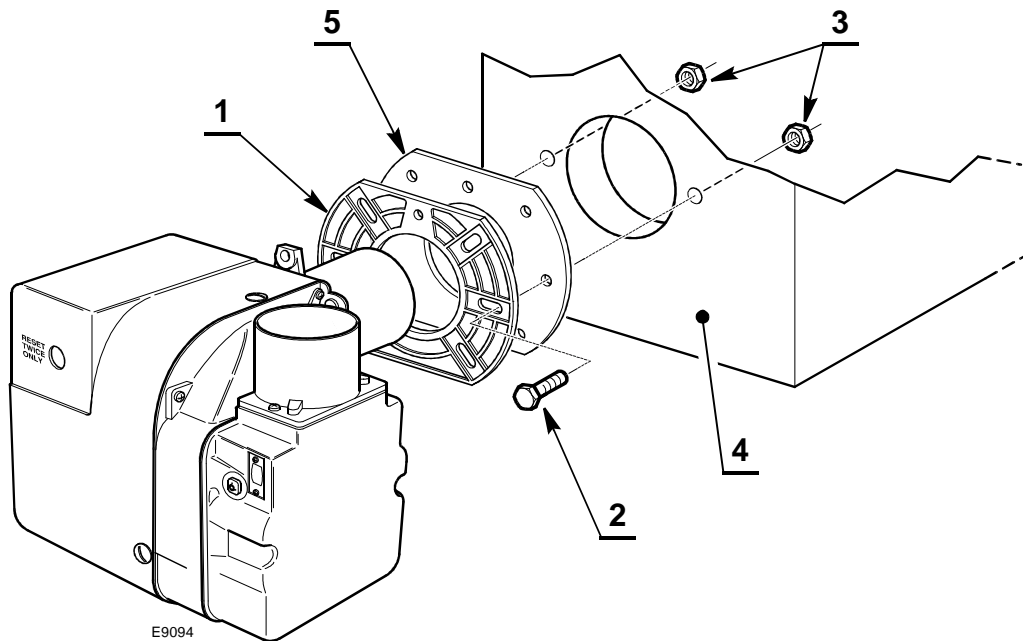

Fig. 7
- Fix the flange (1) to the appliance (4) using the supplied bolts (2) and nuts (3) with the gasket (5) inbetween as in Fig. 7.